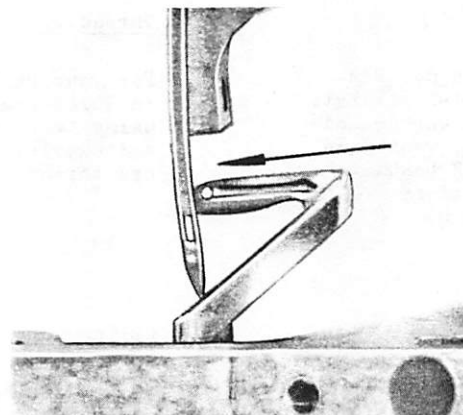

Fig.3
Nadelhöhe (Fig.3)
Needle Height (Fig.3)
The needle height should be set so that when the looper moves to the left and its point is even with the left side of the needle (Fig.3), the lower edge of the looper is in line with the top of the needle eye. To change the height of the needle loosen set screw (A, Fig.1), then loosen lock nut (C) and regulate the height adjusting screw (D) to the desired position.